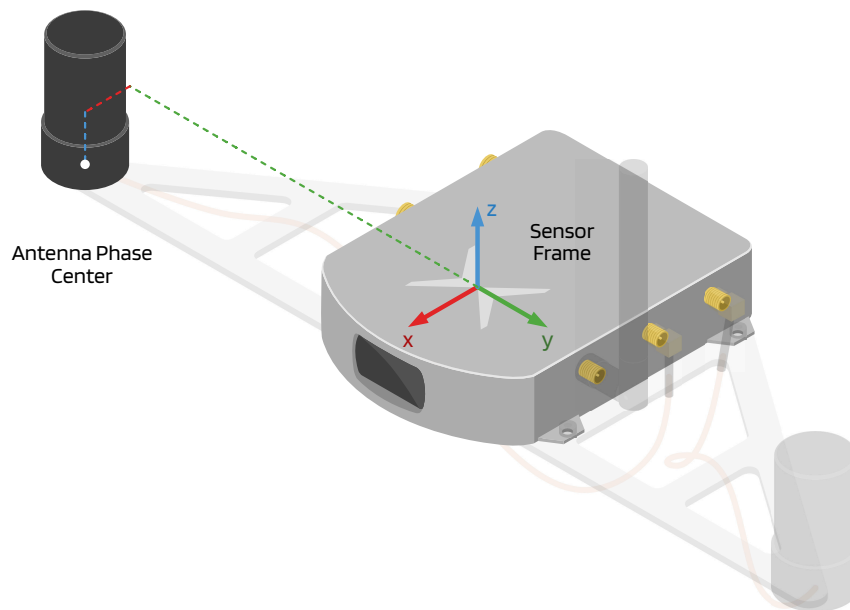

Figure 4.2.: Sensor-to-antenna distance example
- Measure the sensor-to-antenna distances with millimeter accuracy (See Figure 4.2). Note that the antenna reference point corresponds to its phase center, described in the corresponding antenna datasheet. The default extrinsic parameters correspond to the measurements of the starter kit.